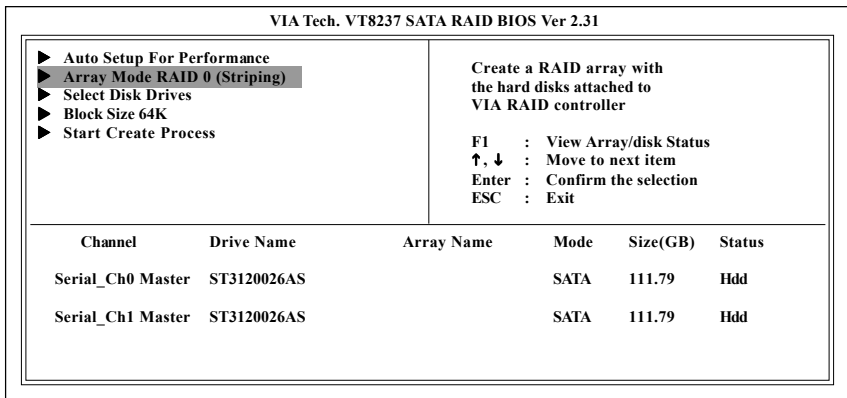

Figure 5
- 3 Select the second option "Array Mode RAID...." (Figure 5) and press <Enter>.